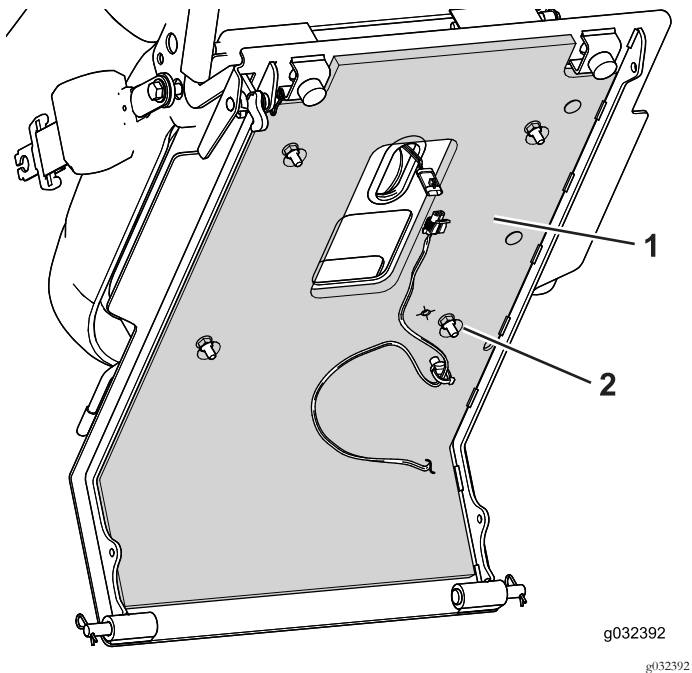

Figure 3
5. Remove the backing and apply the heat shield to the bottom of the seat deck (Figure 3).